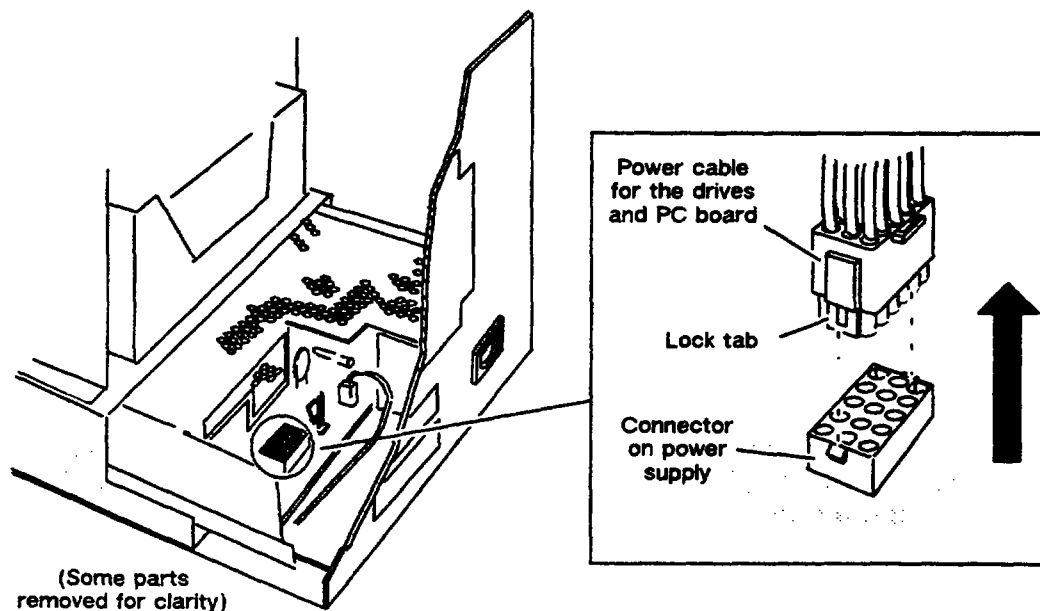

Figure 4-13 Disconnecting or Connecting the Internal Power Cable
3. With the cover removed, disconnect the internal power cable from the power supply connector by releasing the two lock tabs on each side of the connector and gently pulling the connector upward, as shown in Figure 4-13.
3. With the cover removed, disconnect the internal power cable from the power supply connector by releasing the two lock tabs on each side of the connector and gently pulling the connector upward. Refer to Figure 4-13.
9. Connect the internal power cable to the power supply. Refer to Figure 4-13.